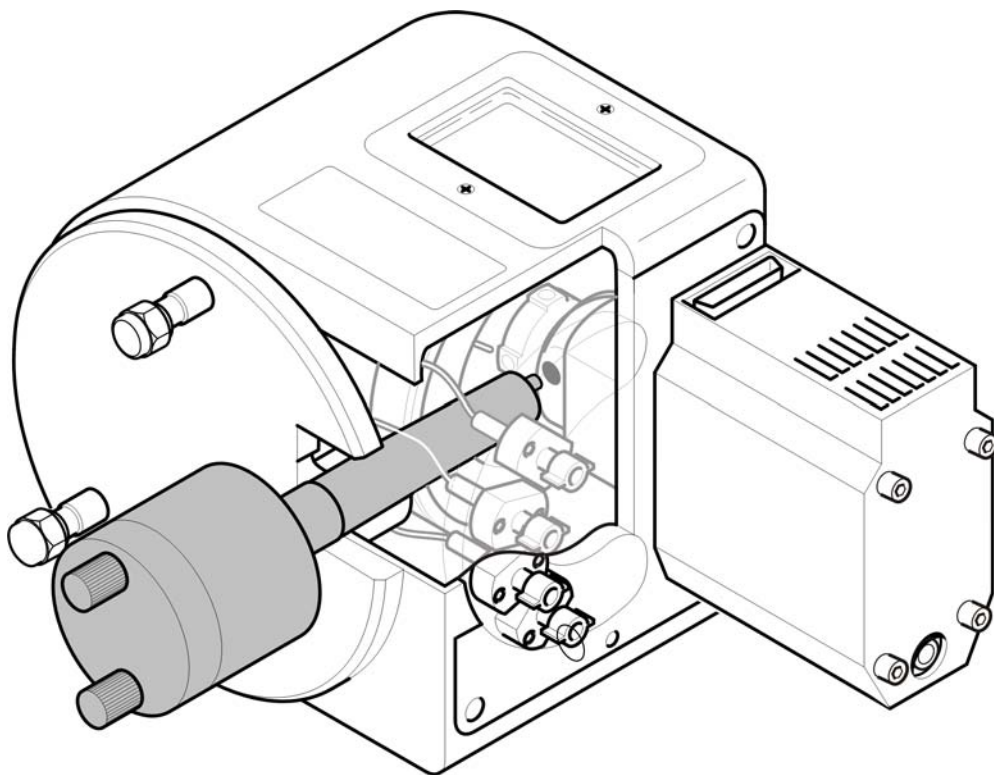

Figure 7-6 Inserting the Desolvation Gas Heater
6. Insert the desolvation gas heater into the aperture in the end flange and, while looking through the housing window, guide the end of the heater into the hole in the outer chamber (Figure 7-6).